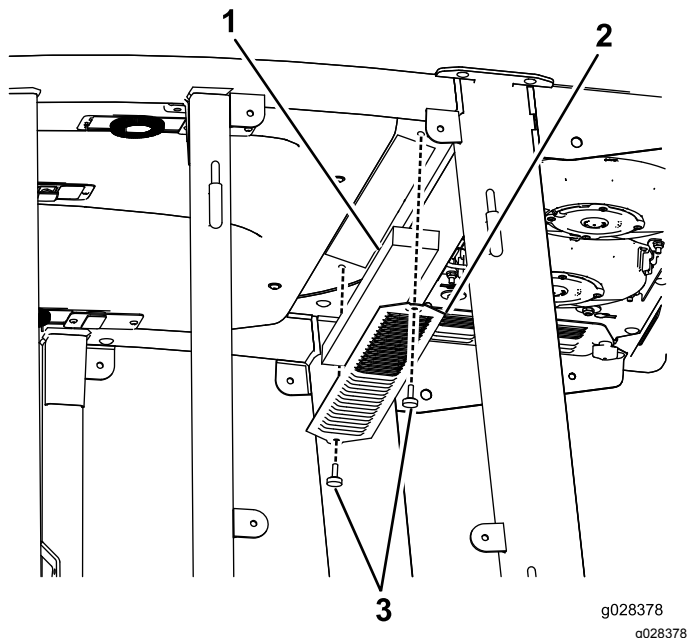

Figure 112
1. Remove the screws and grates from over both the in-cab and rear cab air filters (Figure 112).